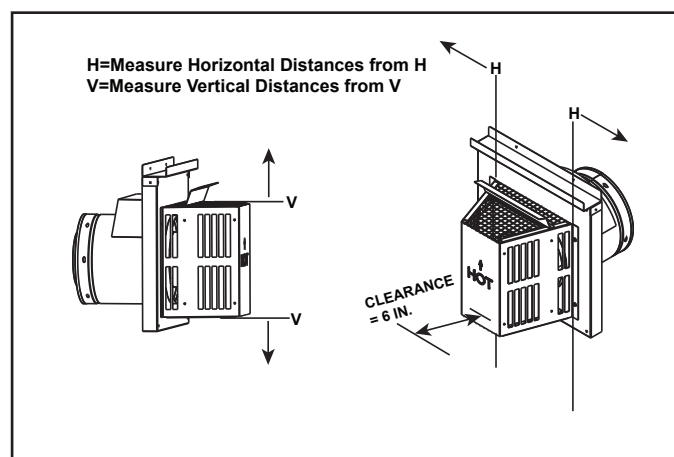

Figure 4.3
- Measure horizontal and vertical termination cap clearances as noted in Figure 4.3 and Figure 4.4.